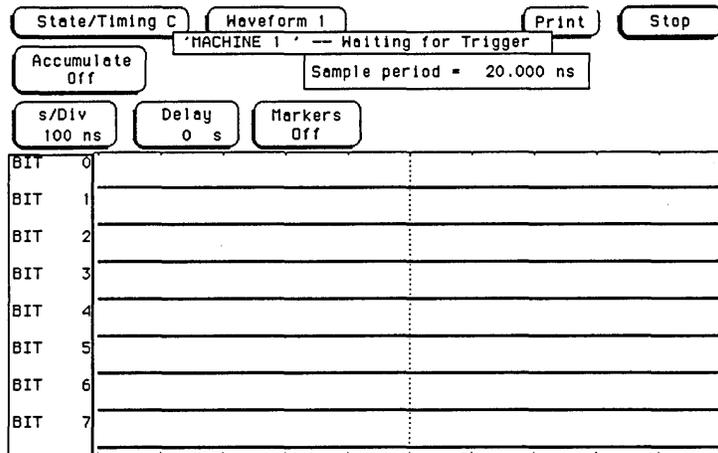

Figure 3-51. Waveform Screen
9. Touch Run. Data displayed on the Waveform screen will be all low for channels under test as in figure 3-51.